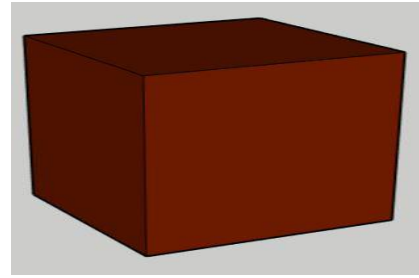

Figure 3B: Brown CM (Sample)
- Team then pastes the coloured paper according to the colour of each Construction Material on six sides of the block (Refer to Figure 3B).